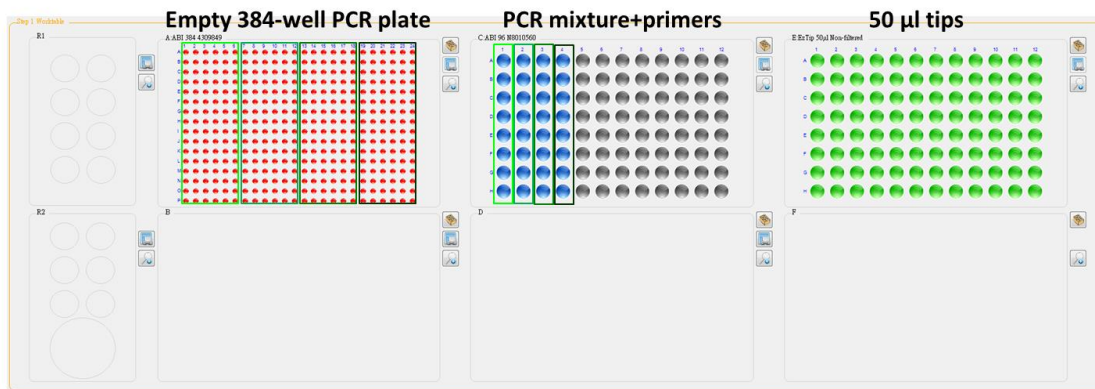

Fig. 1 Layout of the EzMate™ 601s.
3. Place the 96-well PCR microplate with mixture on area C of the EzMate™ 601s. Transfer the 9µl PCR mixture with outer primers to a 384-well PCR microplate on area A (Fig. 1).